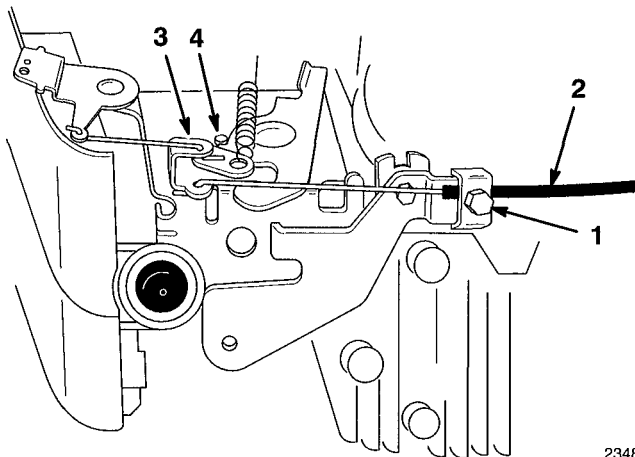

Figure 22
1. Cover 2. Screw (2)
3. Loosen cable clamp screw until throttle cable slides (Fig. 22).
5. Move throttle cable until throttle lever contacts stop (Fig. 22).
7. Reinstall engine cover with (2) screws. Torque screws to 8-10 in.-lbs. (.9-1.1 N·m)